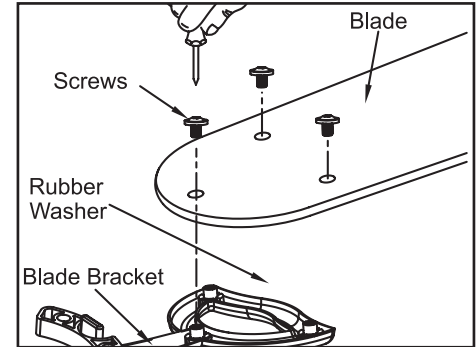

Figure 14
1. Attach the blade to blade bracket using the screws as shown in figure 14. Please note that the rubber washers are pre-attached to the blade bracket. Start a screw into the bracket. Repeat for the two remaining screws.